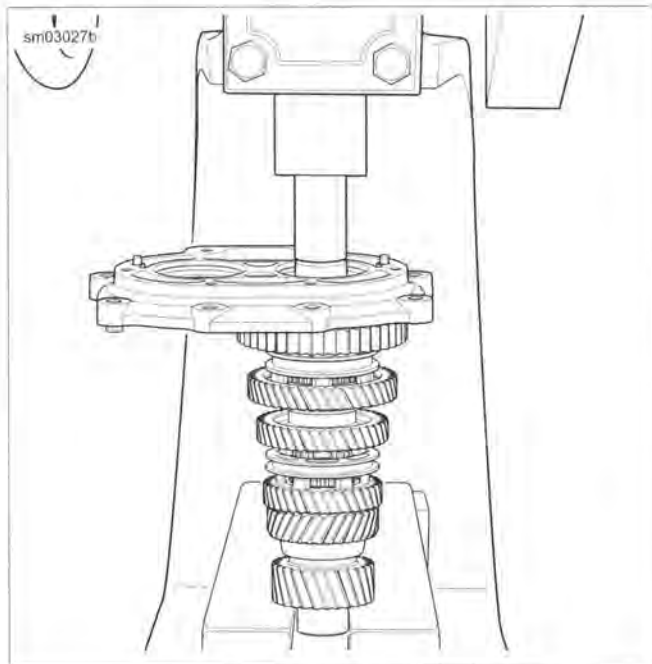

Figure 6-27. Installing Countershaft
6. See Figure 6-27. Place countershaft in an arbor press supporting countershaft sixth gear. Using a suitable sleeve, press on inner bearing race until bearing housing bearing contacts countershaft first gear washer.